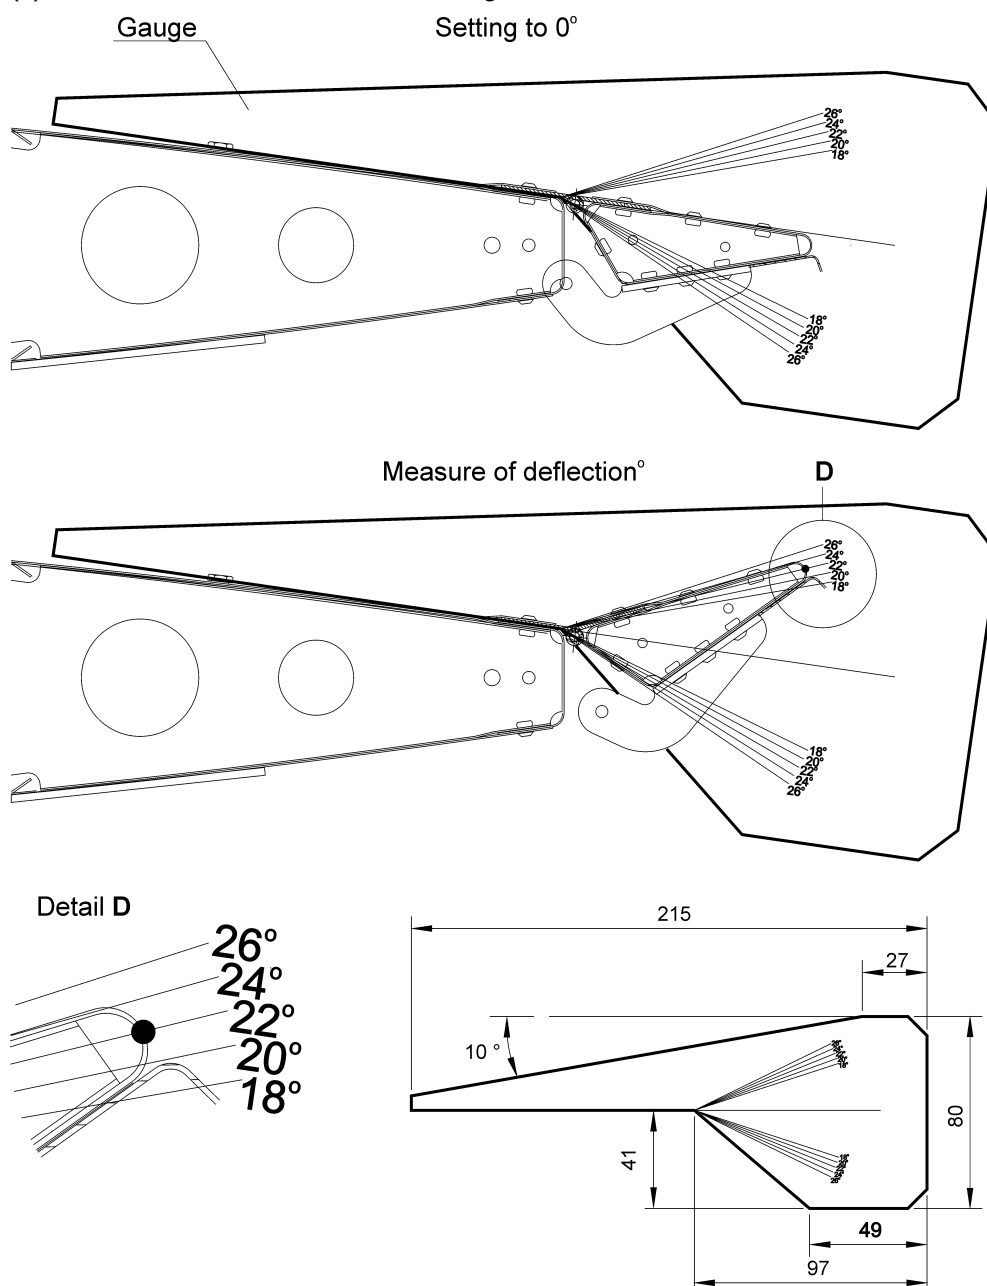

Fig 6-18: Measuring trim tab deflections
- (a) Set the gauge to the trailing edge of the trim tab (see Fig. 6-18).